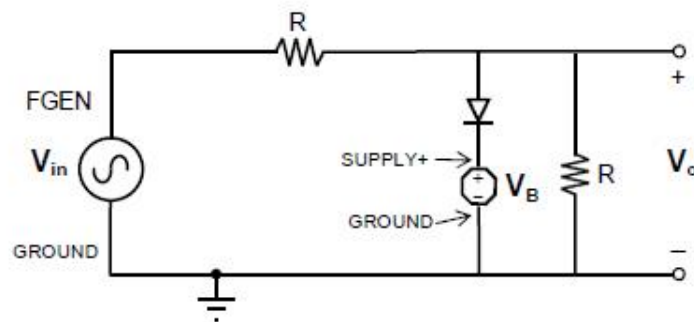

Figure 12: Clipping Circuit
- I. Connect the circuit as shown in Figure 12. Select  $R=1\ k\Omega$  and variable power supply as  $V_B$ .